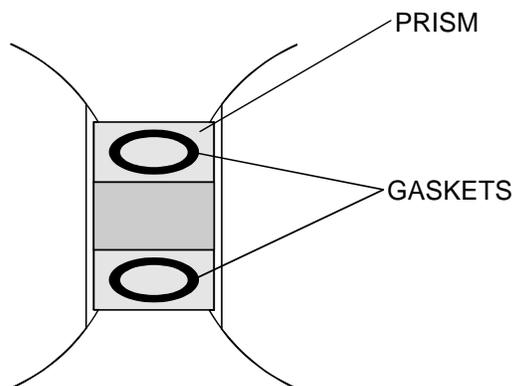

Figure 6.72 Kalrez gaskets seen through the prism
6. Inspect the gasket contact surfaces through the prism. They should form regular concentric rings around both holes (Figure 6.72). The rings should have the same size.